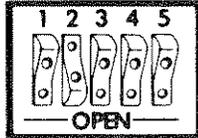

Figure 13-4 IEEE-488 Address
3. Set the address using the IEEE-488 address switches located on the Option 50-13A card (figure 13-4). For switch positions refer to table 13-3. To verify the address, locate COMM PORT 2 in the main menu and check the address.